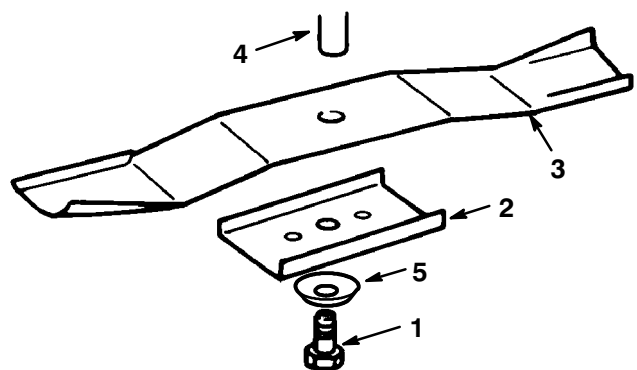

Figure 31
3. Remove the bolt (5/8" wrench), curved washer, retainer and blade (Fig. 31). A block of wood may be wedged between the blade and the mower to lock the blade when you are removing the bolt.
1. Install the blade, blade retainer, curved washer (cupped side toward blade), and the blade bolt (Fig. 31).